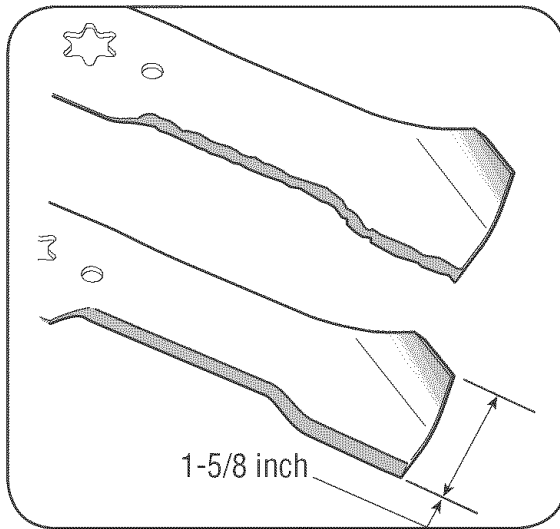

Figure 17
**IMPORTANT:** If the cutting edge of the blade has already been sharpened to within 1 5/8" from the edge, or if any metal separation is present, replace the blades with new ones. See Figure 17.